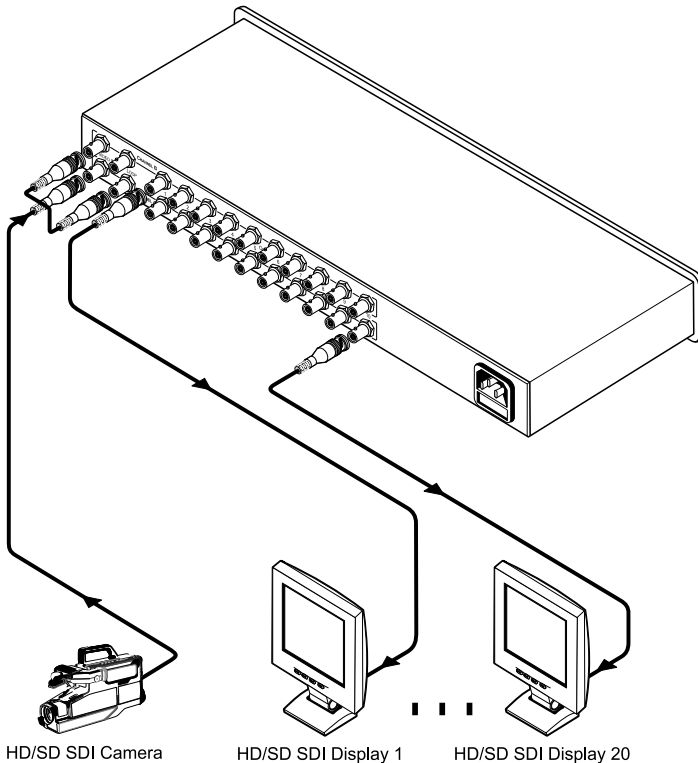

Figure 2: Connecting the VM-20HDx1 3G Dual 1:10 HD/SD - SDI Distribution Amplifier
To connect the **VM-20HDx1**, as the example in Figure 2 illustrates, do the following¹:
4. Connect the power cord (not illustrated in Figure 2).